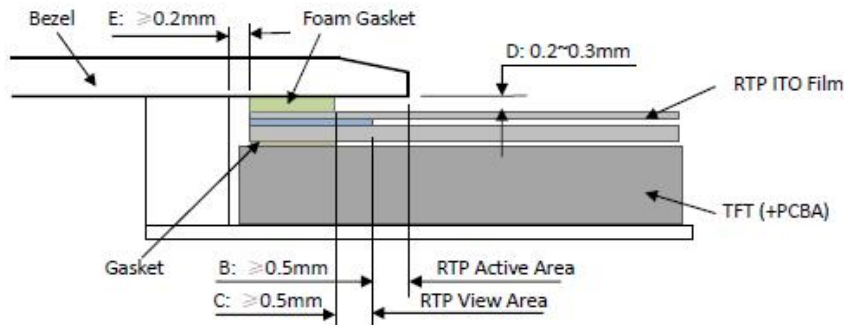

Figure 4
- It should bezel touching the RTP Active Area (A.A.) to prevent abnormal touch.It should left gab D=0.2~0.3mm in between. (Figure 4)
- Outer bezel design should take care about the area outside the A.A. Those areas contain circuit wires which is having different thickness. Touching those areas could de-form the ITO film. As a result bezel the ITO film be damaged and shorten its lifetime. It is suggested to protect those areas with gasket (between the bezel and RTP).The suggested figures are B $\geq 0.50\text{mm}$; C $\geq 0.50\text{mm}$. (Figure 4)
- 为避免面框直接压在动作区 (A. A.) 上造成误动作, 面框与电阻触摸屏 (RTP) 之间应留有一定的空隙 D=0.2~0.3mm 之间. (附图 4)
- The bezel side wall should keep space $E = 0.2 \sim 0.3\text{mm}$ from the RTP. (Figure 4)
- 缘到 V. A. 区的距离 $B \geq 0.50\text{mm}$; 垫圈内边缘到 V. A. 区的距离 $C \geq 0.50\text{mm}$. (附图 4)
在设计面框与 RTP 组装时, 应考虑到面框内侧与 RTP 外侧的间距 $E \geq 0.2\text{mm}$. (附图 4)